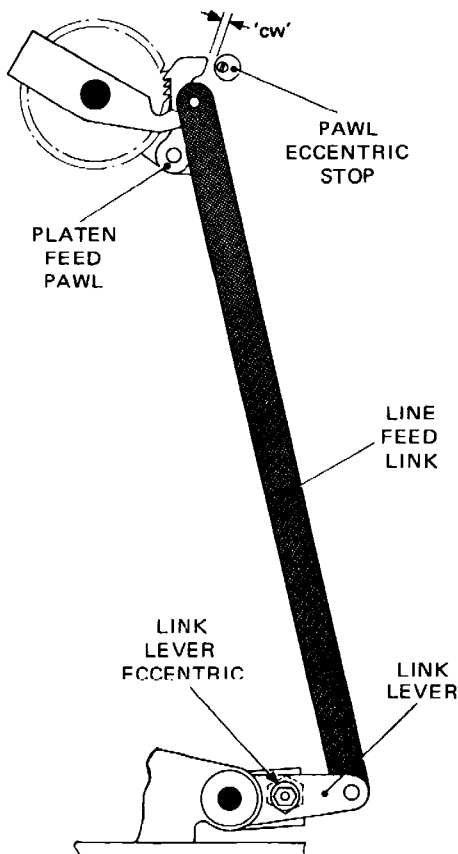

Fig. 4.107 LINE FEED LINKAGE
- 116.2 Set up the line feed (SMSSS) combination, release the trip lever latch and turn the machine by hand until the power bail, Fig. 4.89, has moved to its rearmost position. Check that there is now a clearance of 0.002–0.012 inch (dimension 'cw' of Fig. 4.107) between the platen feed pawl and its eccentric stop.